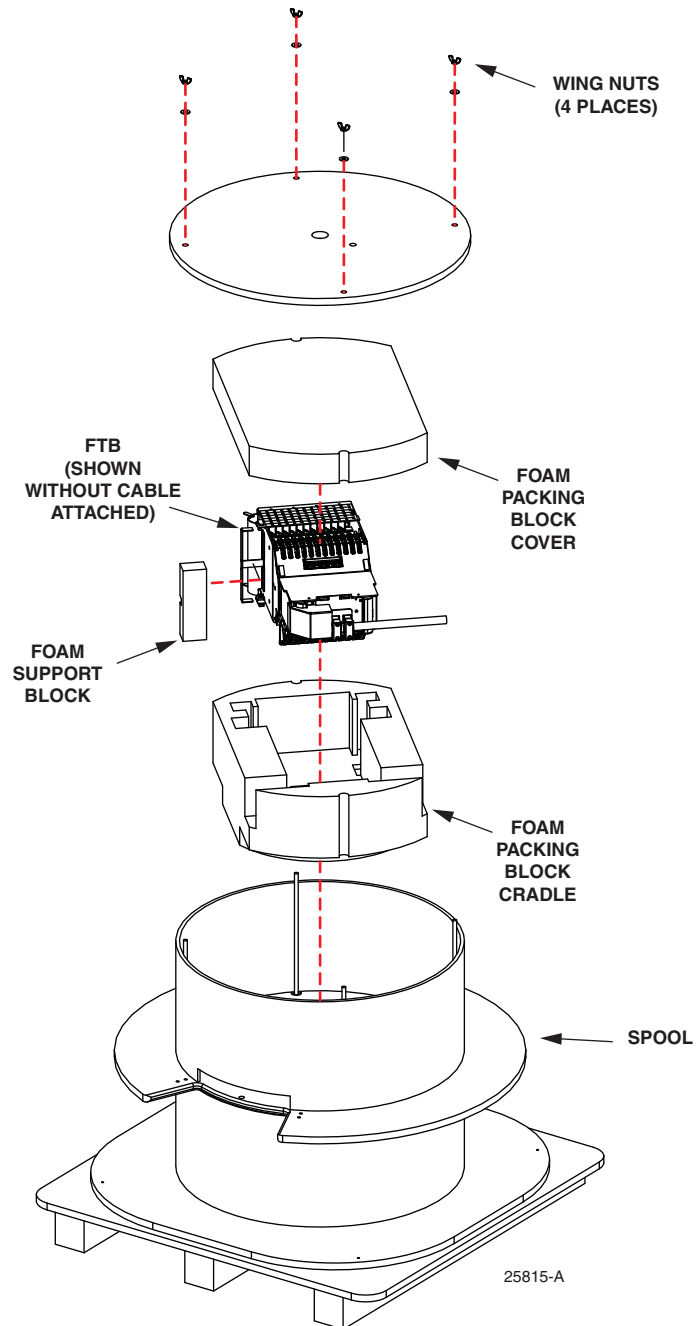

Figure 5. Pre-Terminated FTB Spool Assembly
- Remove the four wing nuts from the top of the spool, and then remove the lid from the spool (see Figure 5).